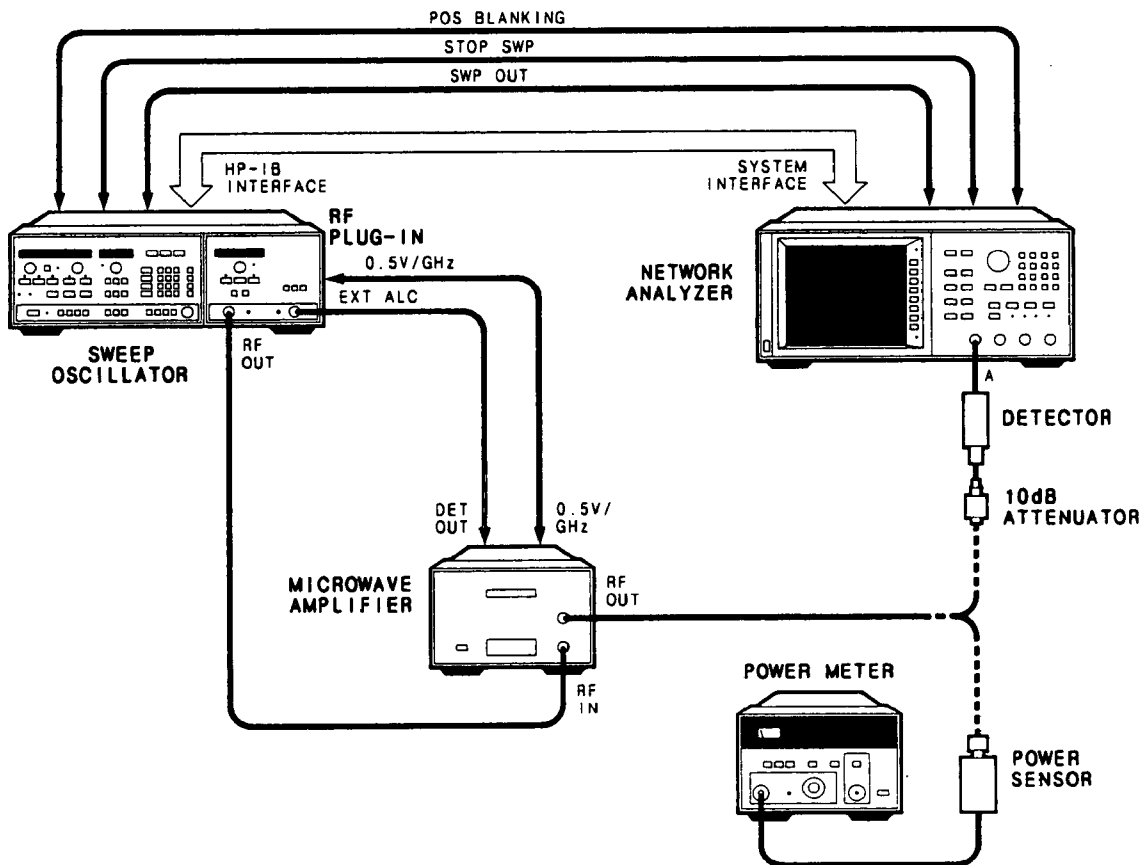

Figure 5-13. Flatness Compensation Equipment Setup
1. Connect the test equipment as shown in Figure 5-13.